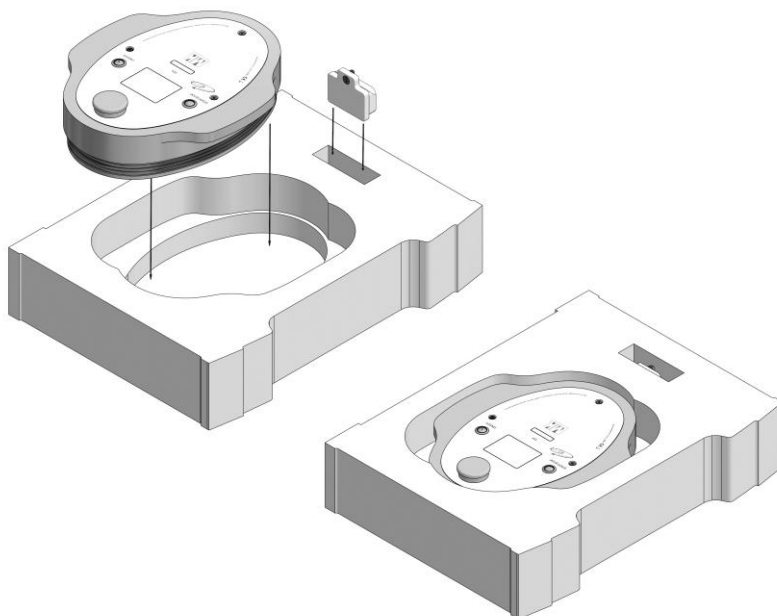

Figure 12: Insert the Glove Test Device into the transport case.
- Carefully place the Glove Test Device in the recess provided in the transport case and close it (figure 12).